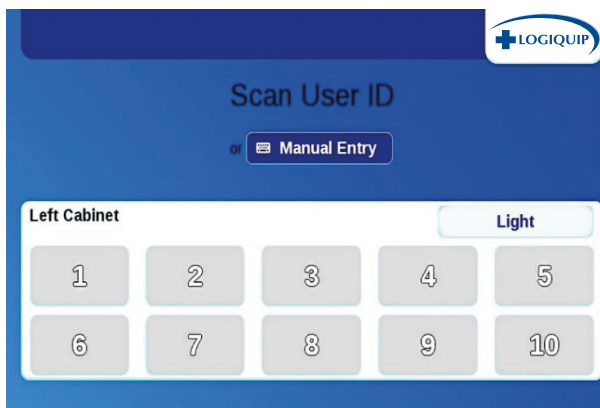

Fig. 40
2. Enter the Access Code to access the Supervisor page (Fig. 40).